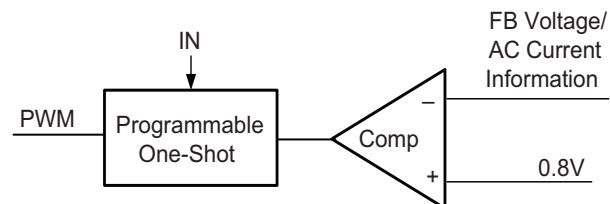

Figure 2. Simplified Control Schematic of AOZ2262AQI-10
The simplified control schematic is shown in Figure. 2. The high-side switch on-time is determined solely by a one-shot whose pulse width can be programmed by one external resistor and is inversely proportional to input voltage (IN). The one-shot is triggered when the internal 0.8V is higher than the combined information of FB voltage and the AC current information of inductor, which is processed and obtained through the sensed lower-side MOSFET current once it turns-on. The added AC current information can help the stability of constant-on time control even with pure ceramic output capacitors, which have very low ESR. The AC current information has no DC offset, which does not cause offset with output load change, which is fundamentally different from other V^2 constant-on time control schemes.